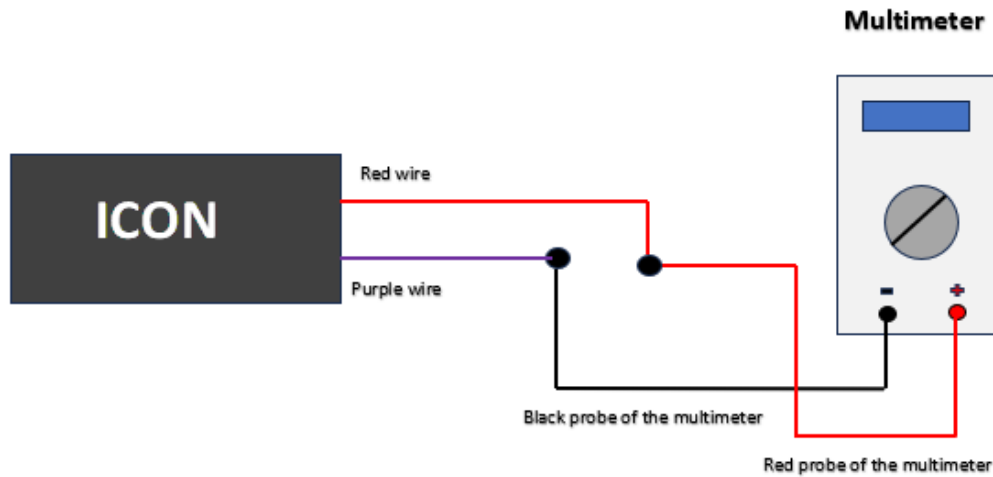

Fig. 3 Connection Diagram
2. Assemble the connection circuit according to "Fig. 3 Connection Diagram".